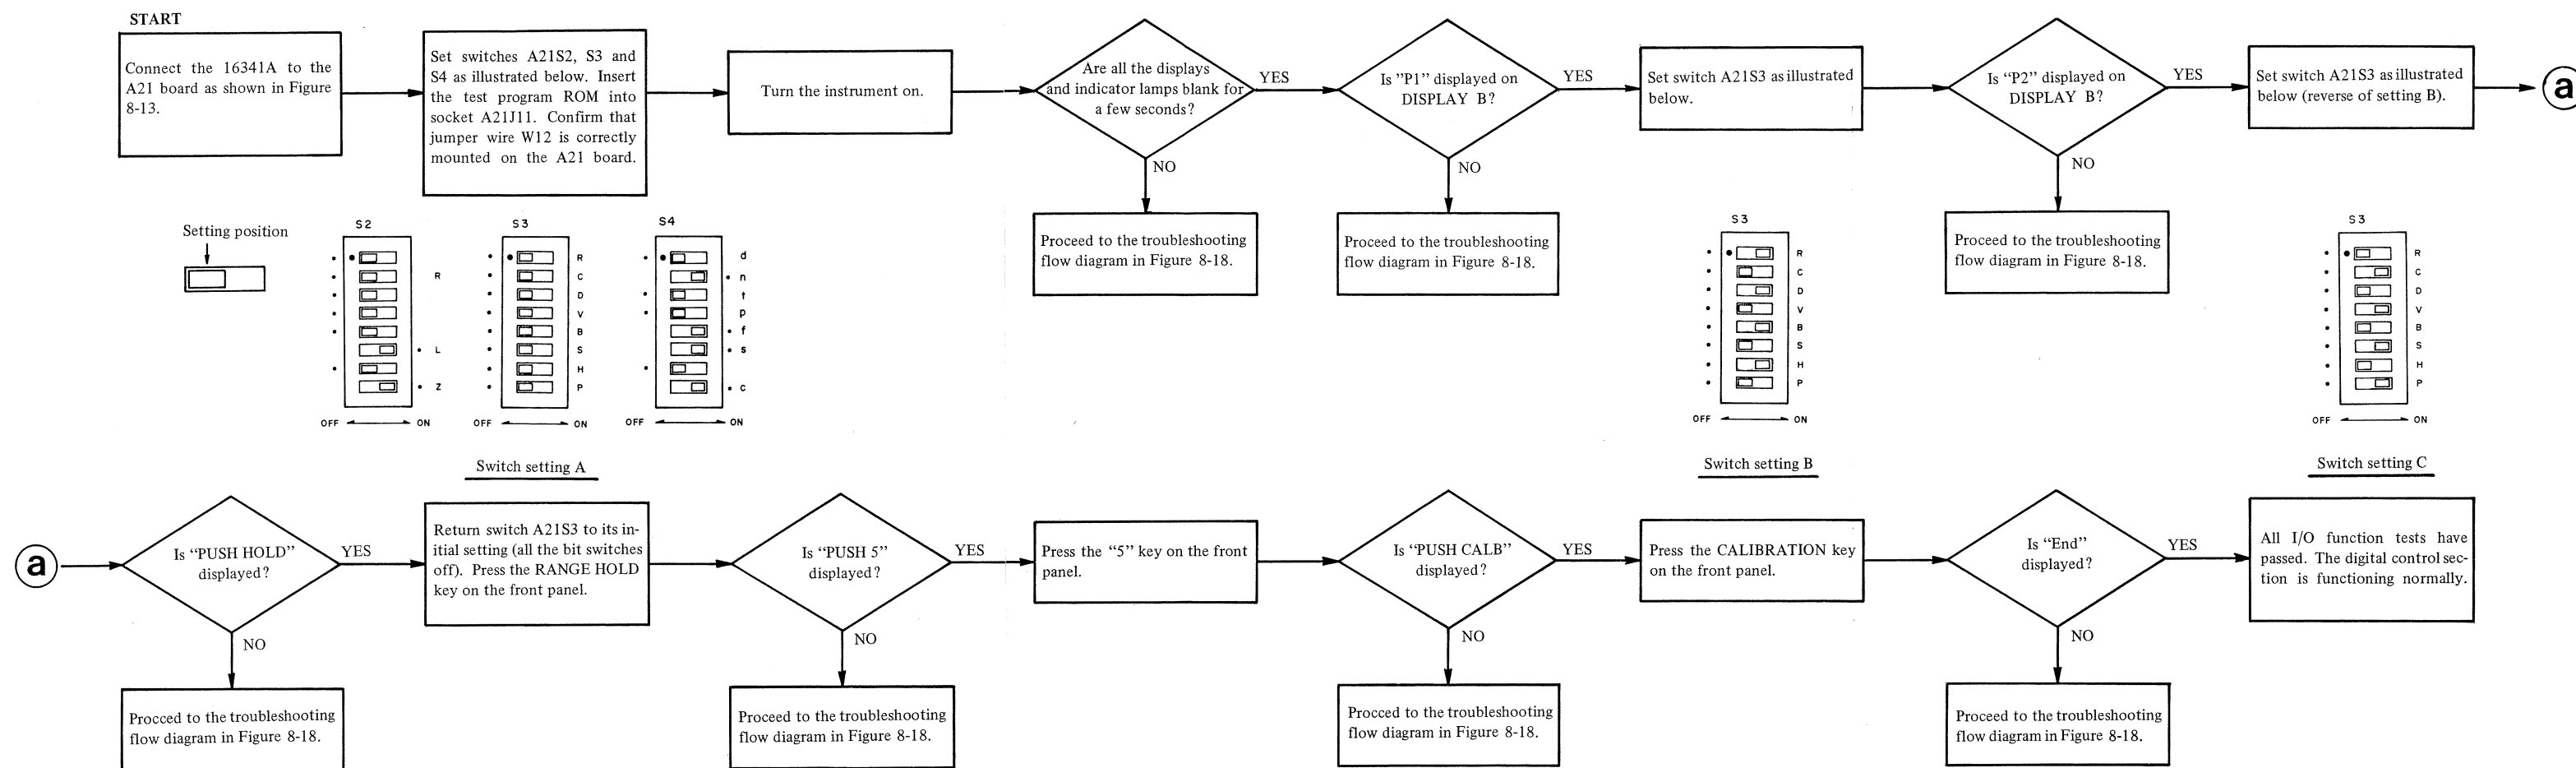

Figure 8-15. Analog and Digital Section Isolation Procedure Using the 16341A.
- 2) Use Figure 8-15 "Analog and Digital Section Isolation Procedure Using the 16341A" to determine whether the failure is in the analog measurement section or in the digital control section. The "Front Panel Troubleshooting Guide" given in Table 8-1 lists the probable causes of failures related to typical symptoms on the front panel controls and displays. This Guide is helpful in finding the location of failures at the level of the analog and digital section isolation.